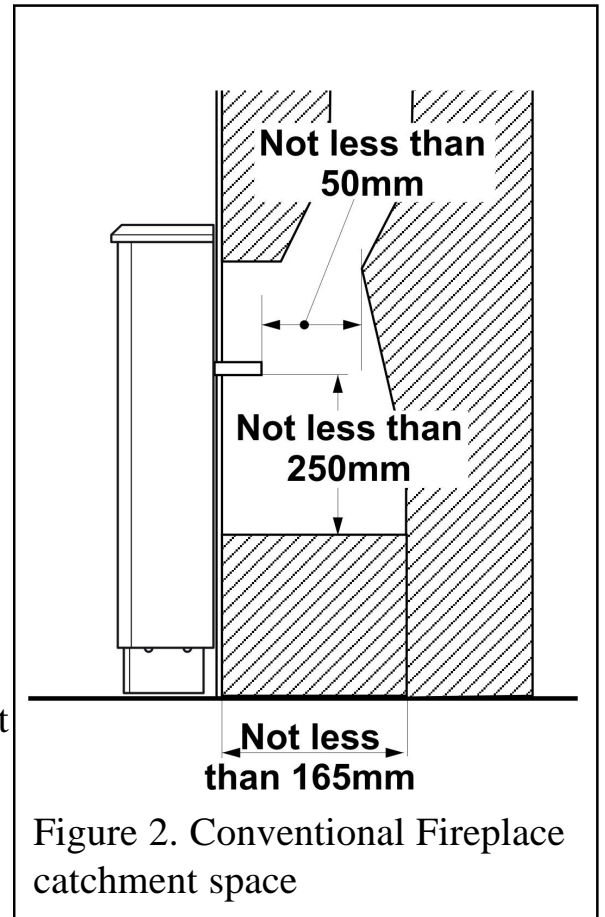

Figure 2. Conventional Fireplace catchment space
Any opening visible below the appliance may be closed in but the depth of the catchment space within the wall opening must be as shown in figure 2.
On conventional flues the catchment space below the flue spigot must extend at least 250mm downward measured from the bottom of the flue spigot (See figure 2).
5.3.7. If the fire is fitted to a recessed fireplace, an extension flue spigot up to a maximum total length of 125mm may be used. The extension must be a tight fit over the flue spigot and be secured by two self tapping screws. Note the minimum clearance required as shown in figure 2.